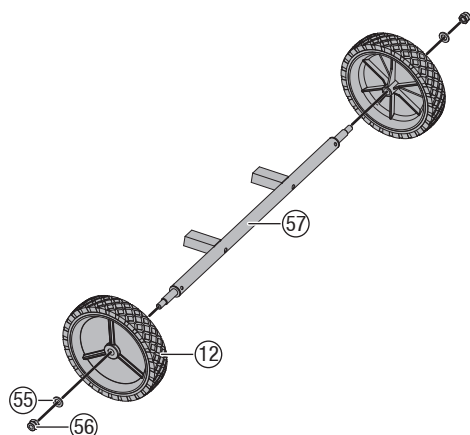

Fig. 1c
- Slide one wheel (12), one big flat washer 10 (55) and one lock nut M10 (56) onto the wheel shaft (57), secure wheel in place by tightening the lock nut M10. Repeat with the second wheel. (Fig. 1c)